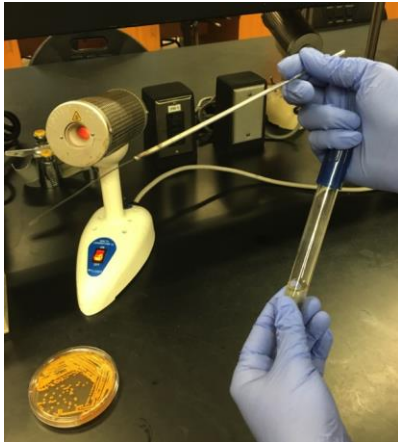

Fig. 6-Open test tube
- While loop is cooling and still holding it like a pencil, remove the cap by gently pulling the tube while holding the cap by curving your pinky finger around it. See Fig. 6.